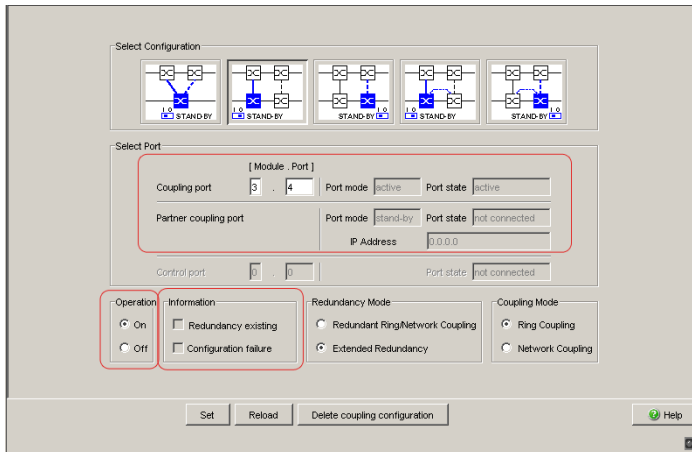

Figure 28: Selecting the port and enabling/disabling operation
- Select the coupling port (see figure 28), (see table 12)..
- Activate the function in the “Operation” frame (see figure 28).
The displays in the “Select port” frame mean (see figure 28):
- The displays in the “Information” frame mean (see figure 28):
- Select the coupling port (see figure 28), (see table 12).
- Activate the function in the "Operation" frame (see figure 28).
The displays in the "Select port" frame mean (see figure 28):
The displays in the “Information” frame mean (see figure 28):